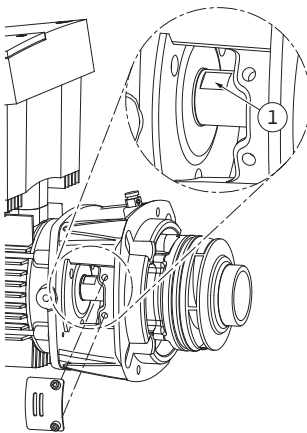

Fig. 48: Wrench surfaces on the shaft
15. Put an open-end wrench (0.9 in/22 mm is the best size) into the lantern window and hold the shaft steady with the wrench surfaces (Fig. 48, Item 3). Unscrew the impeller nut (Fig. 7, Item 15). The impeller (Fig. 7, Item 16) is automatically pulled off the shaft.
24. During the assembly of the impeller, put an open-end wrench (0.9 in/22 mm is the best size) into the lantern window and hold the shaft steady with the wrench surfaces (Fig. 48, Item 1).